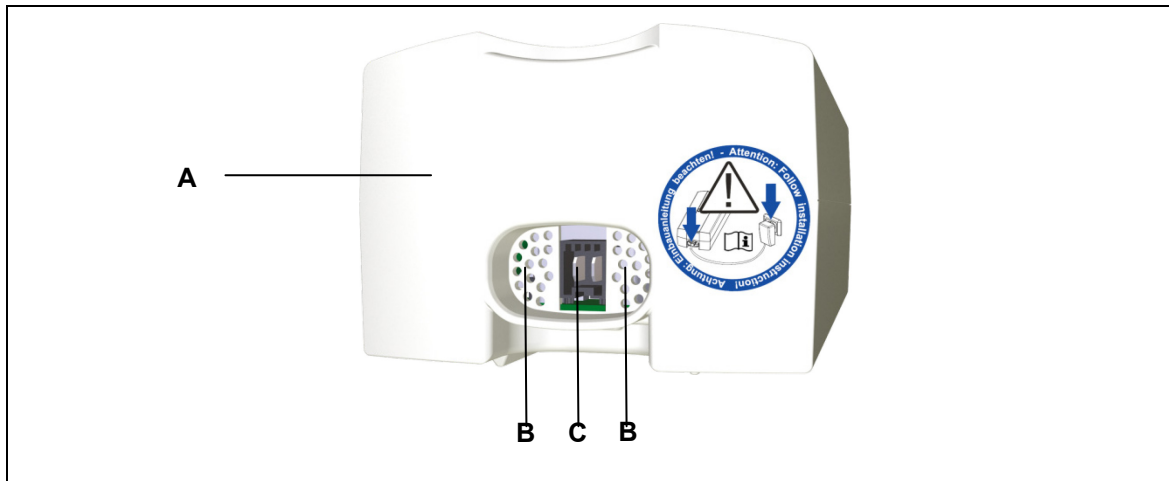

Figure 15 Connection ports and ventilation holes on the ACCU
- The ACCU's ventilation holes should **not** be covered during the charging (see **B** in Figure 15).